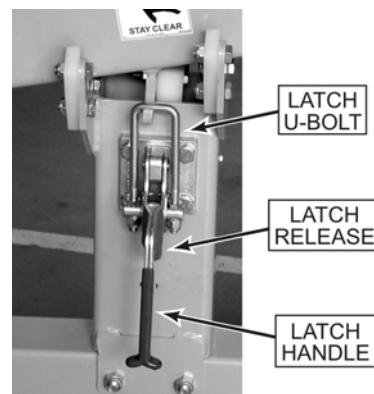

Figure 3-4. Boom Travel Latch
- ❑ Pull the latch release on the boom travel latch, raise the latch handle and swing the latch U-bolt down. Refer to figure 3-4.